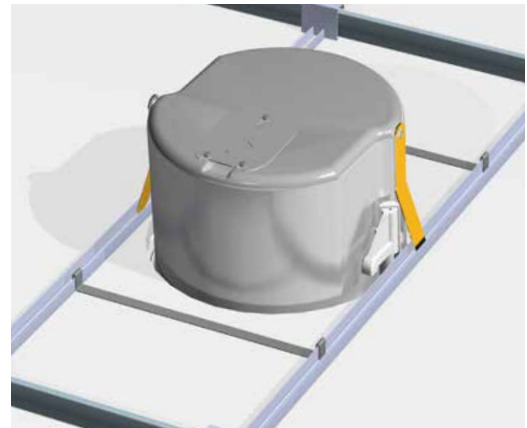

Figure 7. Drop-stop tabs (highlighted) snap out over bridge support rails
2. Before sliding the back can into the ceiling hole, slightly bend each *Drop-Stop™* installation assistant tab outward from the back can 1/2 inch (12mm). Slide the loudspeaker into the hole. When pressing the unit fully into place, the two *Drop-Stop™* tabs will spread atop the tile support bridge rails, and you may hear them "snap" into position; you can now continue without having to hold the back can in place. The illustration in Figure 7 shows how the *Drop-Stop™* tabs work, and is equally applicable with New Construction Bracket installations in drywall ceiling